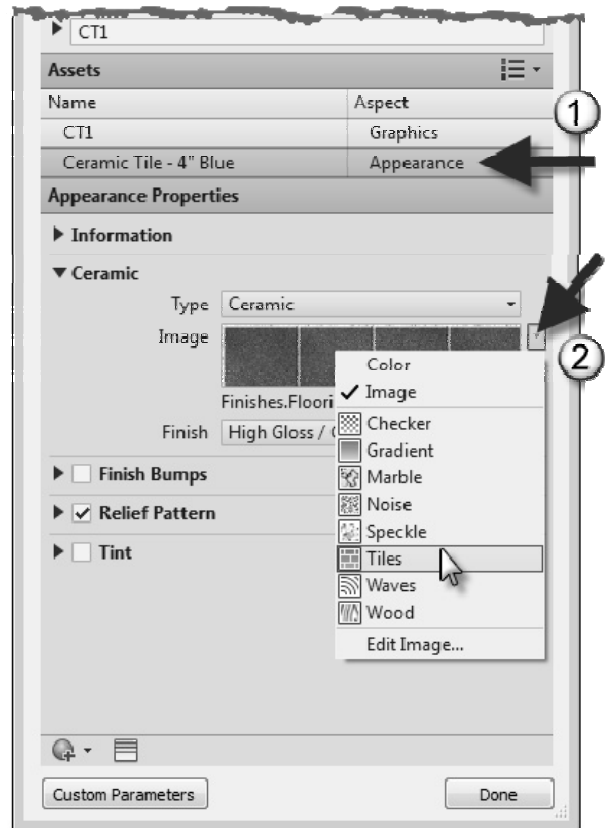
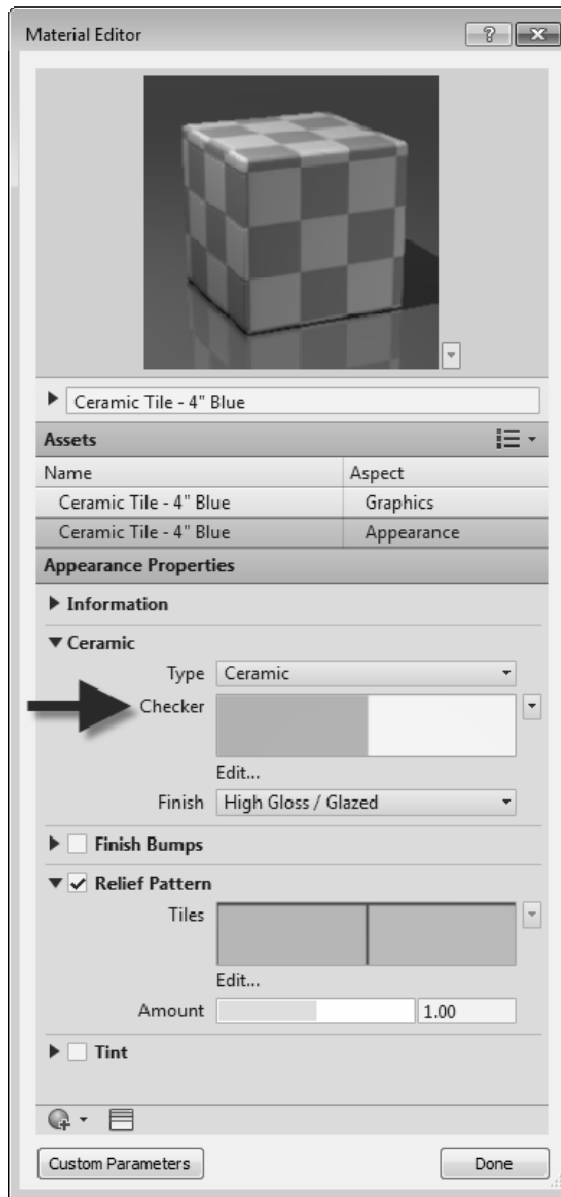

FIGURE 4-4.3 Material Editor; Appearance panel
FIGURE 4-4.6 Material editor (alternate option)
Notice this material is currently using an image file to represent the tile (Figure 4-4.3). This would be similar to taking a photo of an installed tile and then cropping it so that it repeats nicely. In the next few steps you will take a look at another option for representing tile.
19. Click the down-arrow to the right of the image preview (Figure 4-4.3).
The *Material Editor* dialog below shows one of the other options shown in Figure 4-4.3. This is the **Checker** option where you can select two separate colors. This can be used for an entire wall or in an accent area (Figure 4-4.6). Be sure to explore the other options, such as *Wood*, which can be used to represent wood or other things such as art glass.